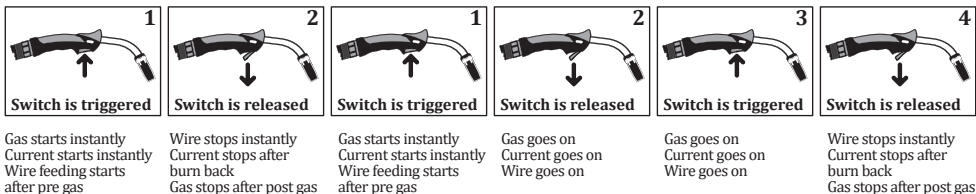

Figure 17 : Using the 2-Position
- The 2-position operates as shown in Figure 17.